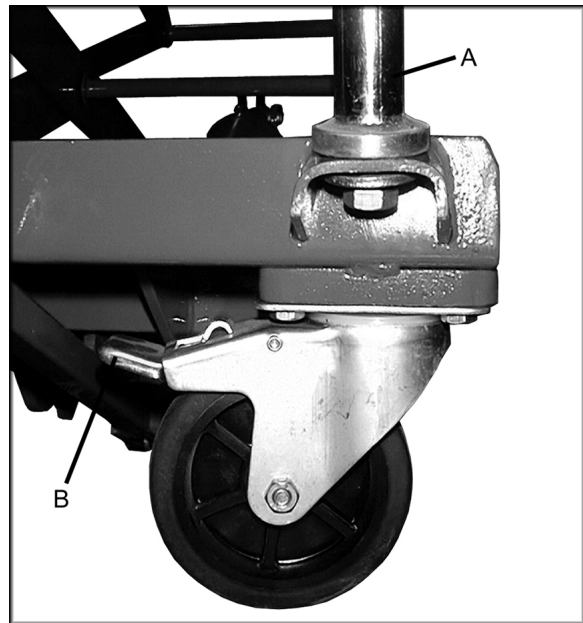

Figure 1
1. Attach the handle (A, Figure 1) to the frame using two hex cap bolts, two lock washers, and two flat washers. Tighten with a 19mm wrench.
Note: The two rear casters can be locked so that they do not rotate. Press foot lever (B, Figure 1)